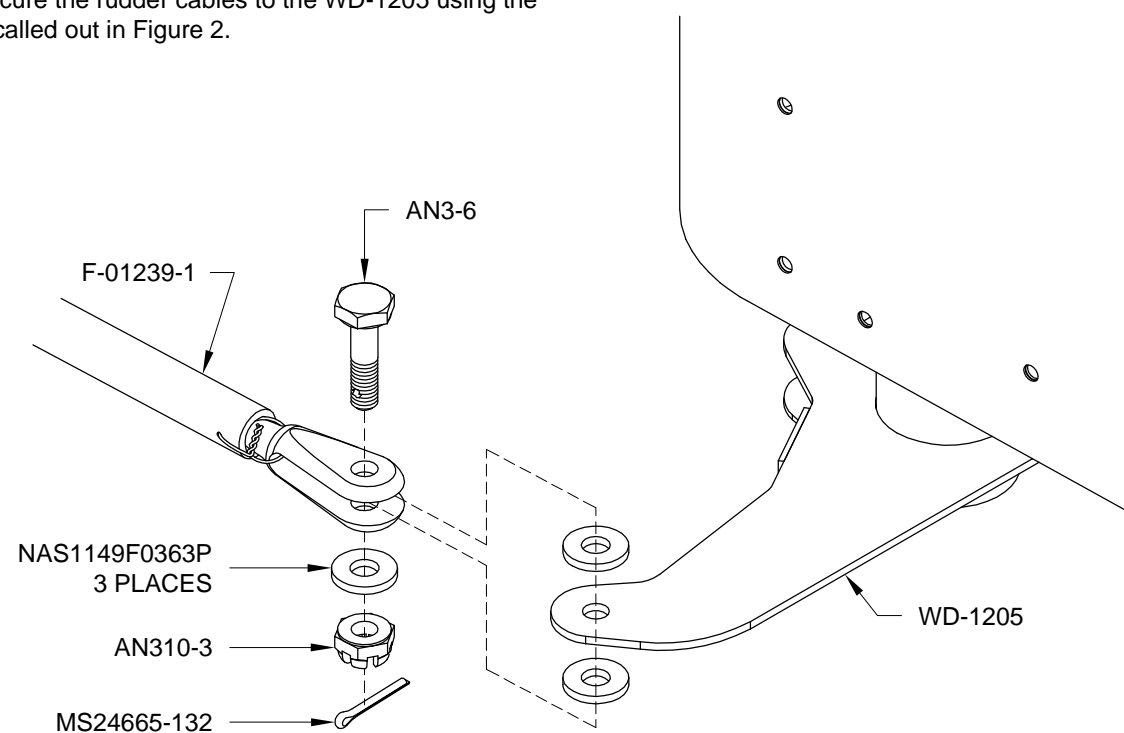

FIGURE 2: SECURING THE RUDDER CABLES TO THE RUDDER HORN
Step 3: Secure the rudder cables to the WD-1205 using the hardware called out in Figure 2.